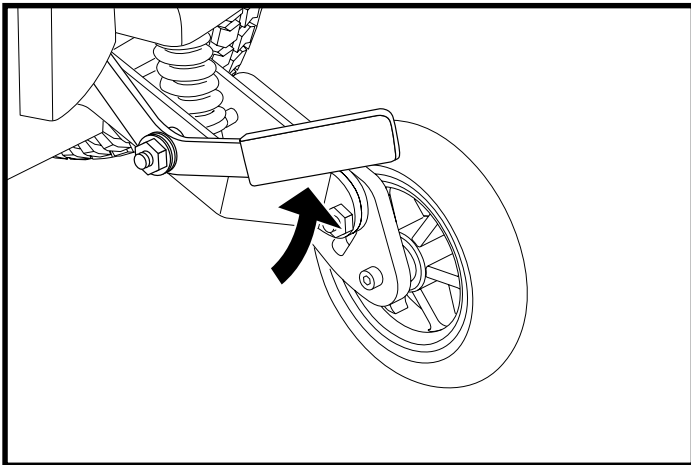

Figure 8. Freewheel Mode (left side shown)
1. Pull up both manual freewheel levers for freewheel mode (drive motor disengaged). See figure 8.